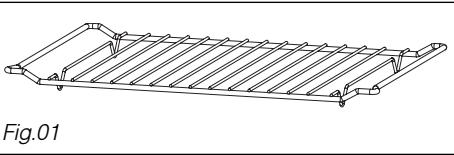

Fig.01
• *The grill (Fig.01):* may be used to toast, brown or grill. The grill must under no circumstances be used with other metal containers in the microwave, grill + microwave or fan cooking + microwave functions. However, you may heat food in an aluminium tray by using a plate to separate it from the grill.